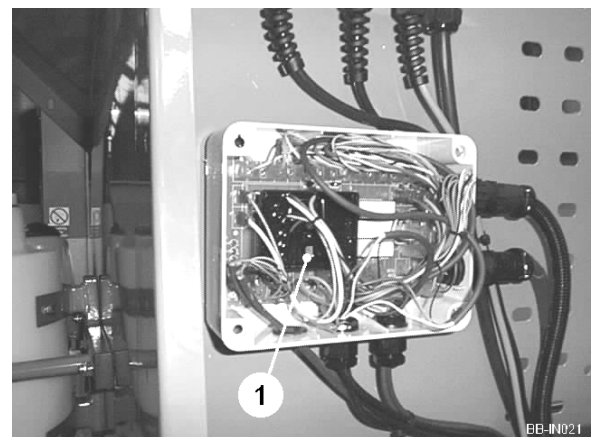

Fig 33
A timer is built into the circuit which is designed to provide a time delay between activation of the 'UP' sensor and actuation of the hydraulic control valve. The time delay can be adjusted between 1 and 5 seconds by turning the relay potentiometer screw (item 1, figure 33) located under the junction box lid. Time delay is increased by turning the screw clockwise and decreased by turning it anti-clockwise. Normally a 3 second delay smoothes out any surface irregularities allowing the planter to gradually change height according to changes in bed height.